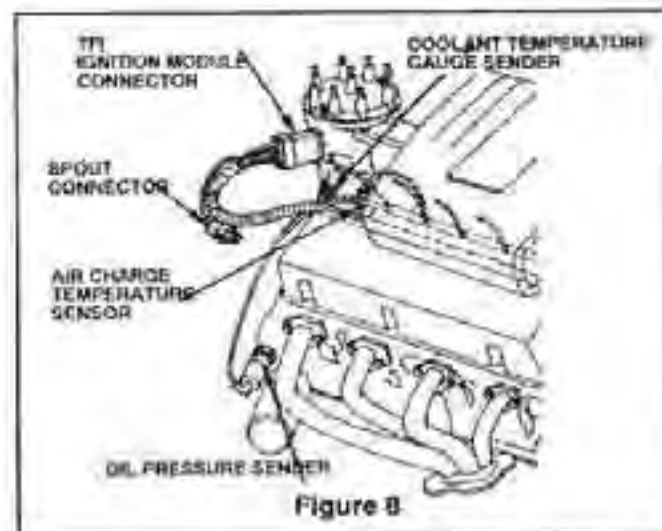

Figure 8
- 8.8 Install the ACT sensor in lower intake manifold. Connect the wiring to the ACT sensor. (See Figure 1, Connector #17, page 5 and Figure 8)